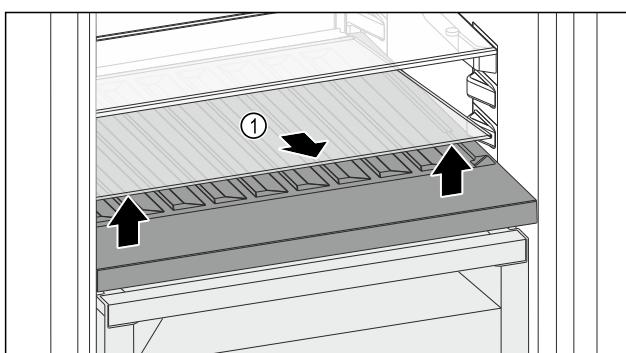

Fig. 96
- ▶ Lift the glass shelf Fig. 96 (1) at the front and remove.
- ▶ Store the glass shelf Fig. 96 (1) in a safe place outside the appliance.